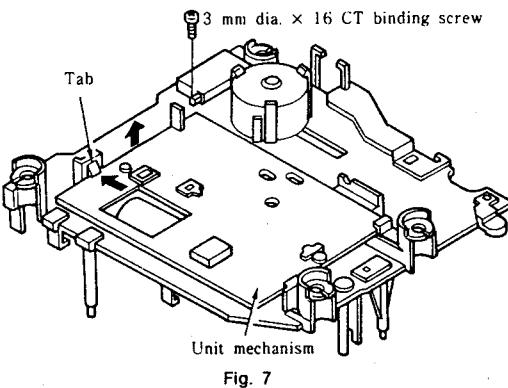

Fig. 7
2. Removal of the unit mechanism (Fig. 7)
After removing the loading mechanism, remove the tab of the bottom surface (in one location) as illustrated in Fig. 7.